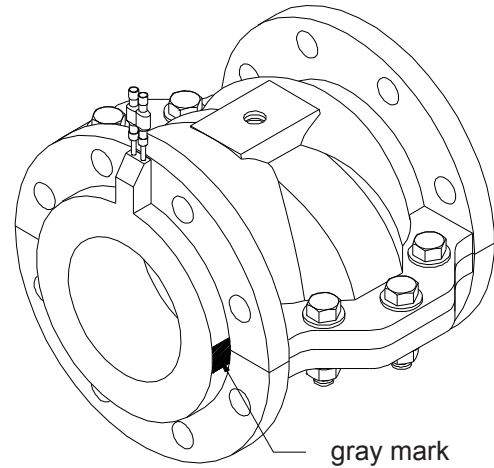

Figure 2-1: Tube Alignment
- 2) Gray/white marks on the outside flange of the elastomer tube line up within 5 degrees of the valve body split (see figure 2-1).